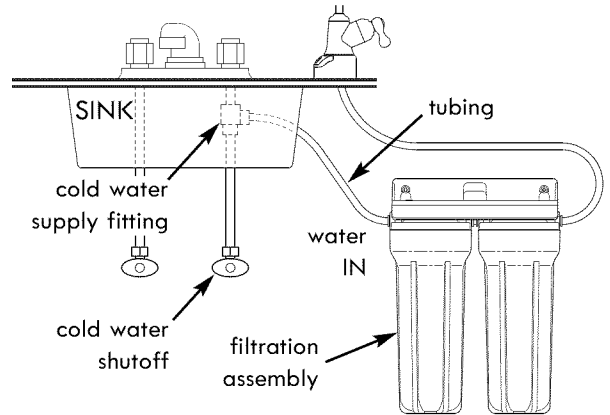

Figure 8
1. Locate the remaining piece of 3/8" O.D. tubing. Refer to the "Connect Tubes" section, below, and insert one end of the tube all the way into the 3/8" quick connect fitting on the water IN side of the filter assembly. See Figure 8.
2. Run the other end to the water supply fitting on the cold water pipe. See Figure 8. Refer to the "Cut Tubes to Length" section, below, and cut the tube square and to length as needed.